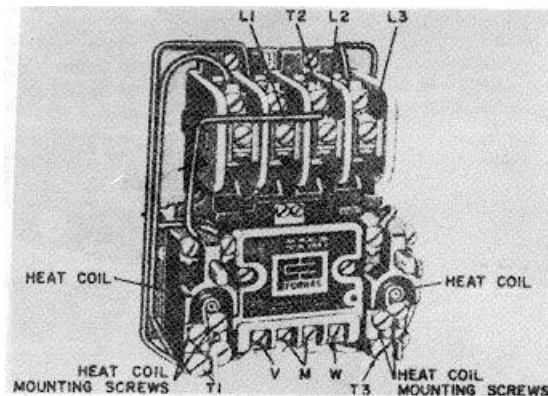

Figure 3. Magnetic Meter Starter
**4. HEAT COIL SELECTION (See figure 3)**